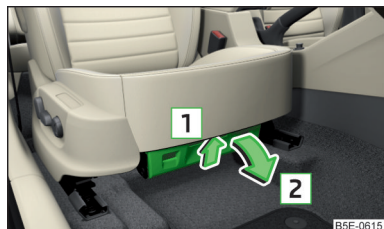

Fig. 90
- To **open**, pull the handle in direction of arrow pull and open the compartment in the direction of arrow » Fig. 90.